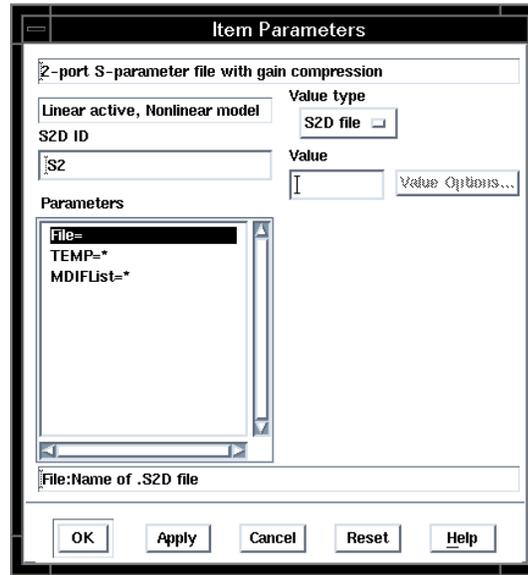

Figure 7. S2D Dialog Box
2. Enter the name of the appropriate S-parameter file. Figure 7 shows the S2D file dialog box.